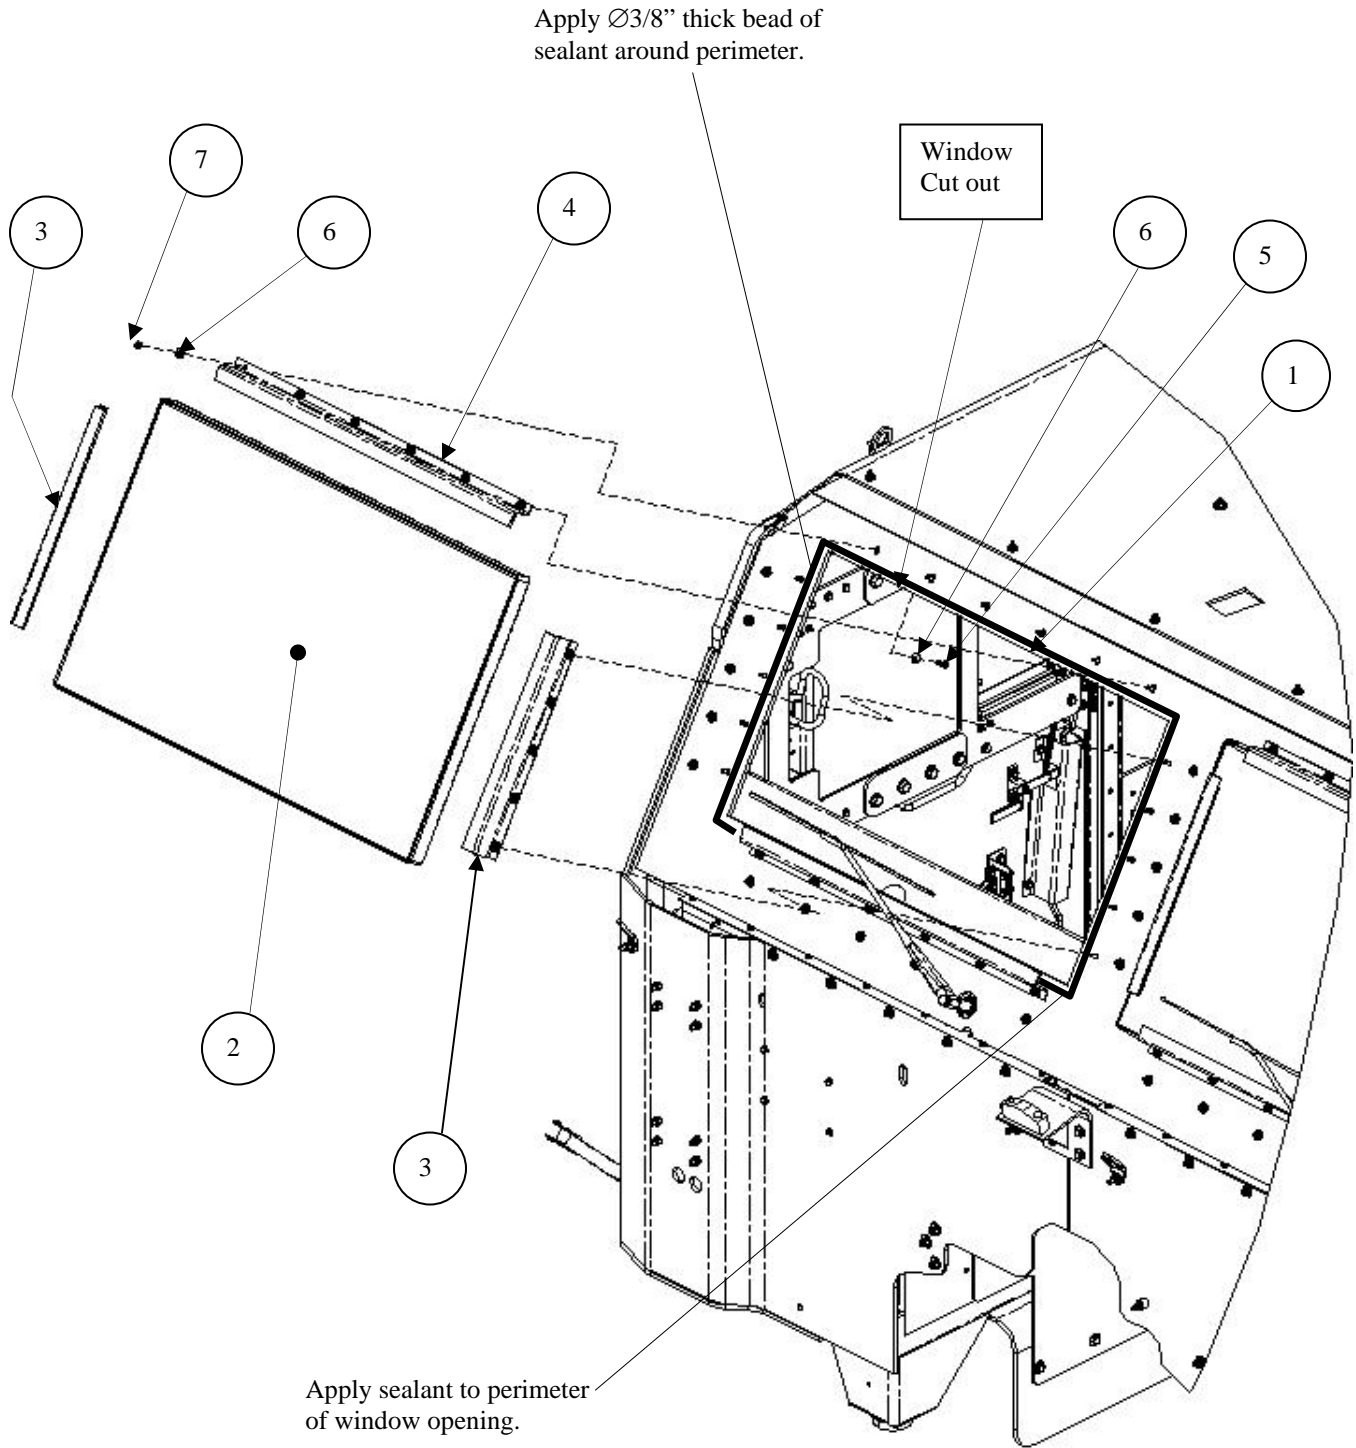

Figure 3-83. Windshield Assembly Armor Installation.
2. Install windshield assembly armor as follows (see Figure 3-83):
- a. Apply a  $\text{Ø}3/8$ -inch thick bead of black urethane sealant (1) around the perimeter of the window cut out.
- b. Install one windshield assembly armor (2) onto previously installed windshield mount Z-channel and install two side windshield mount Z-channels (3) and one upper windshield mount Z-channel (4) and secure each with the remaining 16 bolts (5), 32 flat washers (6), and 16 lock nuts (7). Torque lock nuts to 9 lb-ft.